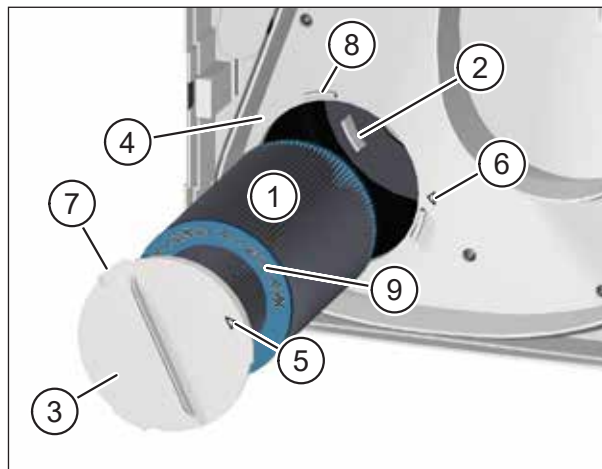

Fig. 23: Inserting the new outdoor air filter
- ▶ Carefully guide the new outdoor air filter (item 1 in Fig. 23) into the ventilation unit.
- ▶ Make sure that the air filter slides into the 3 retaining tabs (item 2 in Fig. 23) on the back wall of the ventilation unit.
- ▶ Place the filter cover (item 3 in Fig. 23) on the outdoor air filter. Make sure that the filter cover lies flat on the intermediate plate (item 4 in Fig. 23).
- ▶ Turn the filter cover clockwise until the arrow on the filter cover (item 5 in Fig. 23) lines up with the arrow for the locking position (item 6 in Fig. 23). Make sure that the 3 tabs (item 7 in Fig. 23) on the filter cover engage in the retainers (item 8 in Fig. 23) on the intermediate plate.
- Only M-WRG-II FA, part no. 750010, and M-WRG-II FK (activated charcoal filter), part no. 750020, may be used as the outdoor air filter. The part no. and air filter class are imprinted on the turquoise end plate of the air filter (item 9 in Fig. 23).